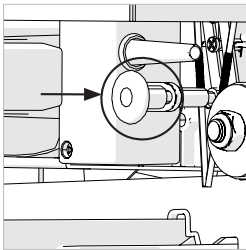

Fig. 17
- Lower the Cutting Head to the fully down position, capturing the Lower Auxiliary Blade Guard. Push the Cutting Head Latching Pin into its socket. **(Fig. 17)**